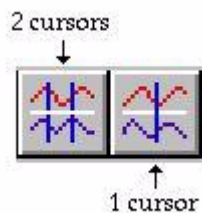

Figure 3-3: Cursor controls on the *DataTrax2* Main window toolbar.
Cursors are vertical blue lines that pass through all channels. The *DataTrax2* software has two cursors. Icons in the toolbar allow you to choose between using **Single Cursor** or **2 Cursor** modes (Figure 3-3 on page 21). Cursors can also be "garaged," or placed all the way to the left hand side of the data so they measure or report nothing. Cursors in the *DataTrax2* software are always in one of three modes — garaged, single, or 2 cursor.
To access **Single Cursor** mode, press the **Single Cursor** icon (Figure 3-3 on page 21) in the toolbar. In this mode, the value of the data point on each channel that is intersected by the cursor bar, is reported in the **Value Display** area on the right side of each channel bar. The time
To access **2 Cursor** mode, press the **2 Cursor** icon (Figure 3-3 on page 21) in the toolbar. In this mode, the **Value Display** area reports the difference in value between **Cursor 1** and **Cursor 2**. In a similar way, the **Clock Area** reports the difference in time between the two cursors. When using **2 Cursor** mode, the cursor farthest to the left is always **Cursor 1** and the other to the right is always **Cursor 2**. **2 Cursor** mode is also used to define the right and left boundaries of a selection of data. This selected area can be used to determine what two values are used to accomplish the **Units Conversion** function.
- Select **Single Cursor** mode by pressing the **Single Cursor** icon in the toolbar (Figure 3-3 on page 21).
- Call the **2 Cursor** mode by pressing the **2 Cursor** icon in the toolbar (Figure 3-3 on page 21).